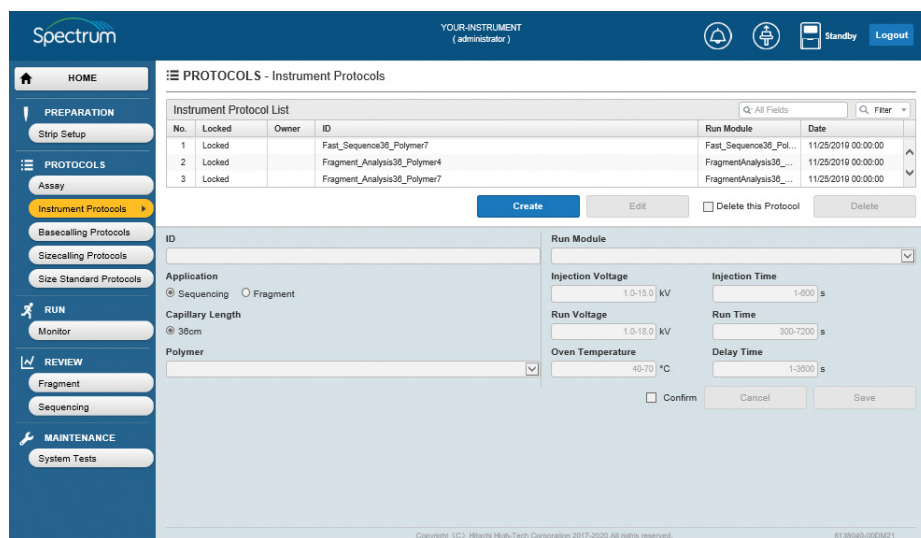
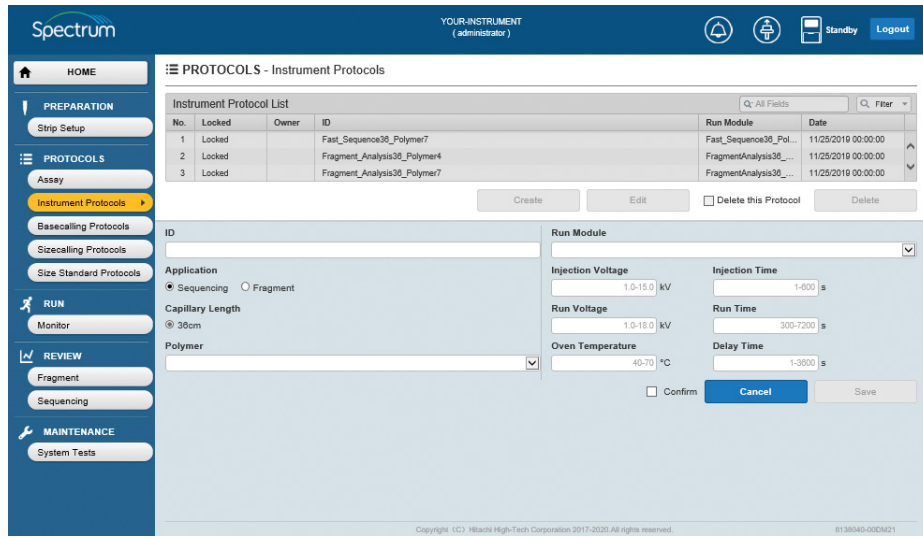

Figure 24. 'Instrument Protocols' screen.
Figure 25. 'Instrument Protocols' screen with active fields.
1. Select **Instrument Protocols** under PROTOCOLS from the Main Menu of the 'HOME' screen (Figure 12) and then select **Create** (Figure 24). This activates the ID, Application, Polymer and Run Module fields (Figure 25).